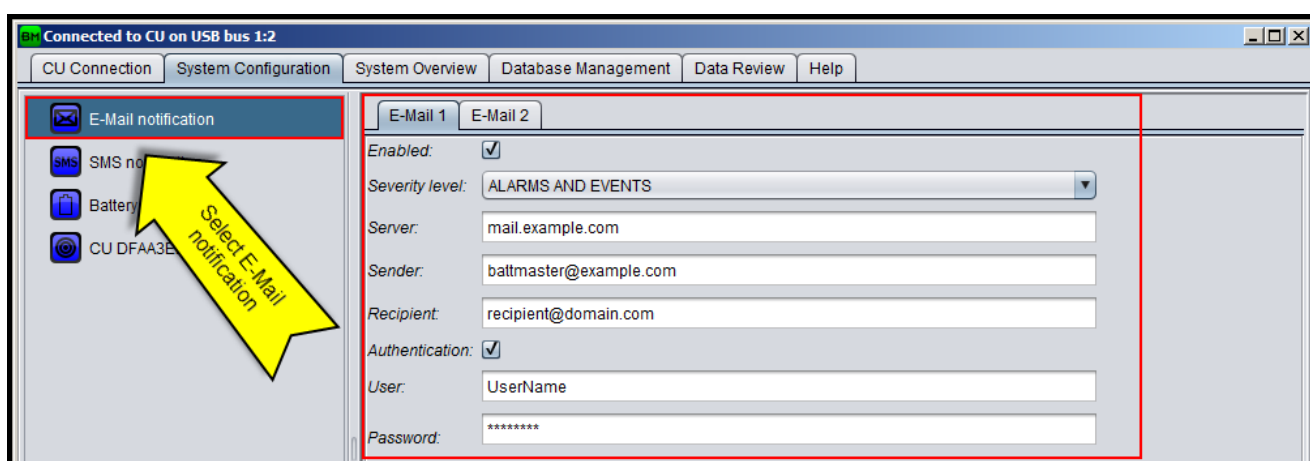

Figure 29: E-Mail notification configuration
- Select E-Mail notification as shown on Figure 29.